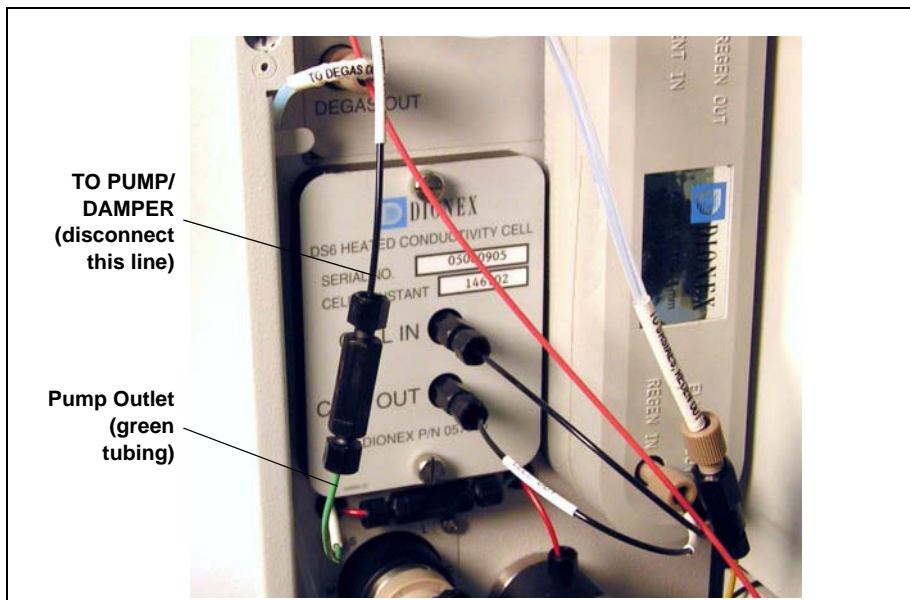

Figure 76. EluGen Cartridge Inlet and Pump Outlet
2. Disconnect the EluGen cartridge inlet line (labeled **TO PUMP/DAMPER**) from the coupler that connects it to the green pump outlet line (see Figure 76).